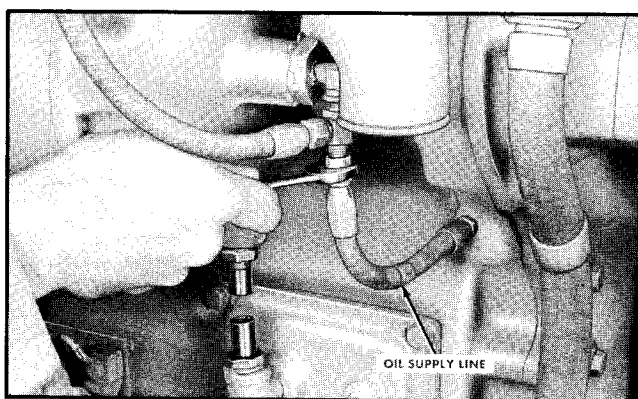

Fig. 4-10. Installing oil supply line
8. Install lubricating oil supply and drain lines to the supercharger and hand hole covers. Fig. 4-10.